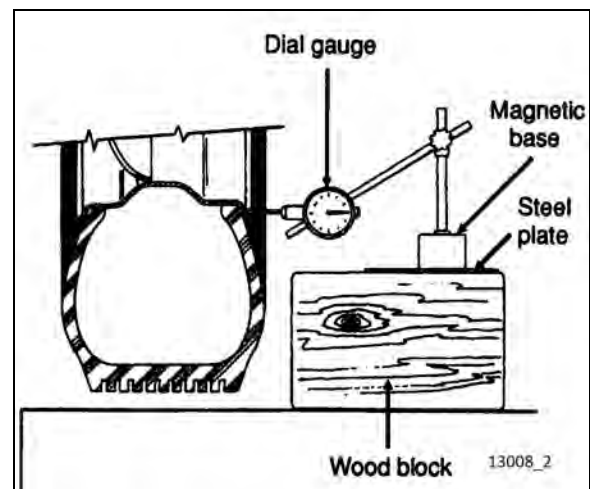

FIGURE 3: DIAL GAUGE INSTALLATION
It is also important that wheel stud nuts be tightened alternately on opposite sides of the wheel. Refer to Figure 3 for the suggested tightening sequence.
Tighten stud nuts progressively as shown in Figure 3. The final tightening should be done with a torque wrench.
2. Screw in the hex stud nuts (refer to Figure 3 for sequence) so that wheel will position itself concentrically with hub. This is important, otherwise wheel may be eccentric with hub and will not run straight. In this initial step, slightly tighten the nuts to correctly position the wheel;
3. Tighten stud nuts progressively as shown in Figure 3. The final tightening should be done with a torque wrench.
With inner and outer wheels installed, tighten the stud nuts progressively as shown in Figure 3. The final tightening should be done with a torque wrench.
Repeat for each of the 10 "hex stud nuts" according to the tightening sequence in figure 3.
Using a calibrated torque wrench, tighten wheel nuts. Do not use power tools or long bars for tightening. Tighten wheel nuts alternately as shown in figure 3.